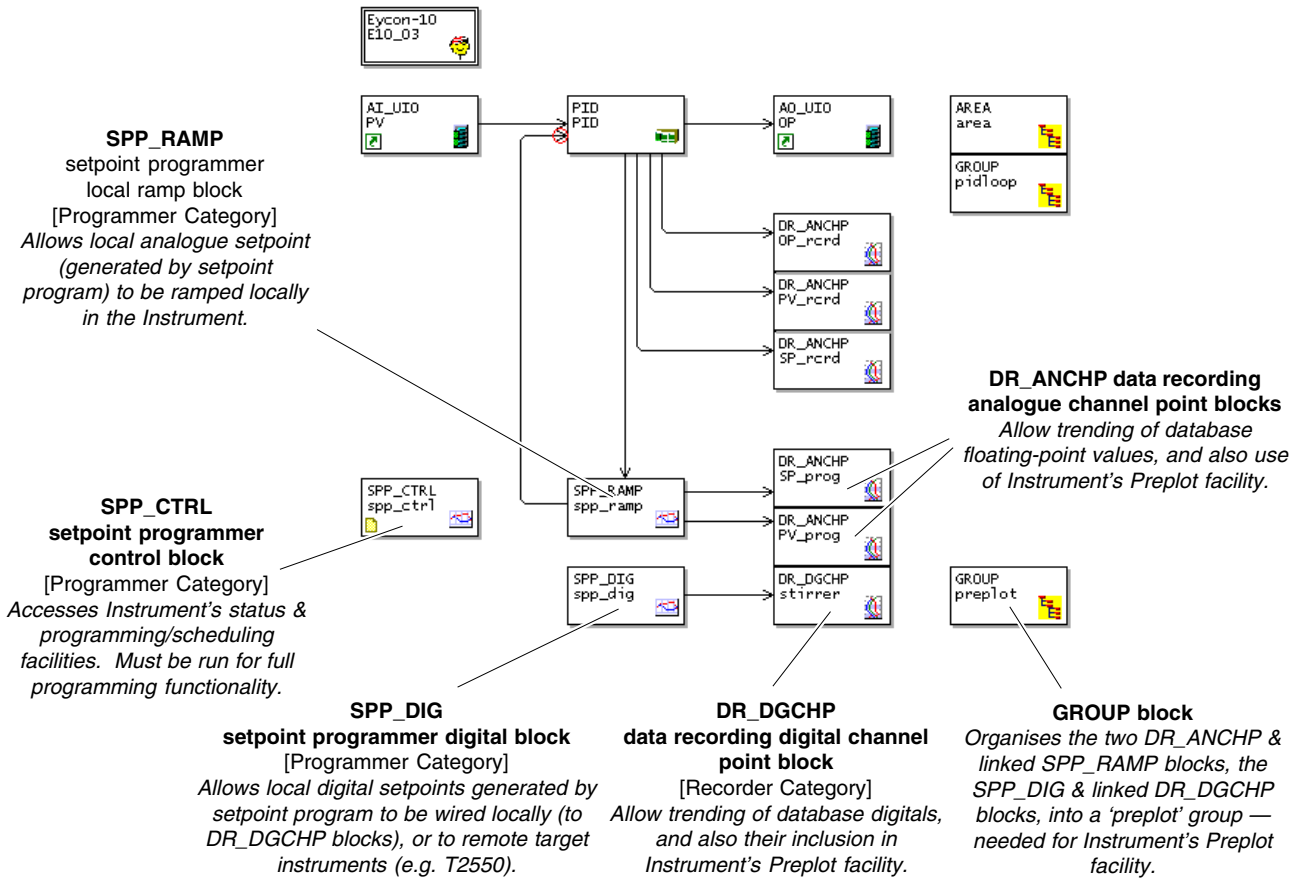

Figure 3-1 PID loop strategy with added Setpoint Programming
Figure 3-1 shows the PID loop strategy created in Chapter 2, but with extra function blocks added, at the bottom of the figure, to allow a setpoint program to be run.
- 1 In the LINTools Engineering Studio, locate the required blocks as shown in Figure 3-1. The quickest way to do this is to open up the existing PID loop strategy as your starting-point — by double-clicking its icon in Explorer view, then simply add the seven extra ‘programming’ blocks.
Note *(Block type) blockname.field.subfield format, referring to Figure 3-1
Table 3-2 lists the fields that should, as a minimum, be edited from their default values. For completeness, all such fields are shown in the table — including those edited in the original PID loop strategy. Note that you must also edit the **Name** fields in all blocks, according to Figure 3-1 if you wish.
- 4 Now single-click the **SP 1 (New)** cell. The Properties dialog changes to a ‘**Setpoint/Holdback**’ dialog. Edit the setpoint **Name** field to ‘**profile1**’, and the **Hardware reference** field to ‘**spp\_ramp**’. This is the name of the SPP\_RAMP block that transfers the generated setpoint to the strategy (see Figure 3-1).